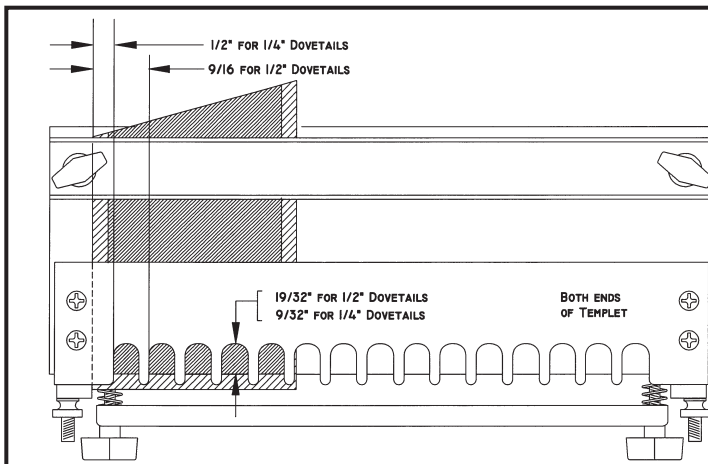

Fig. 17
1. Position drawer front "inside up" on top of Dovetail Fixture/Jig maintaining dimensions to templet shown in Fig. 17. A gauge block with a 3/8" rabbet may be used to position drawer front as shown in Fig. 17A.